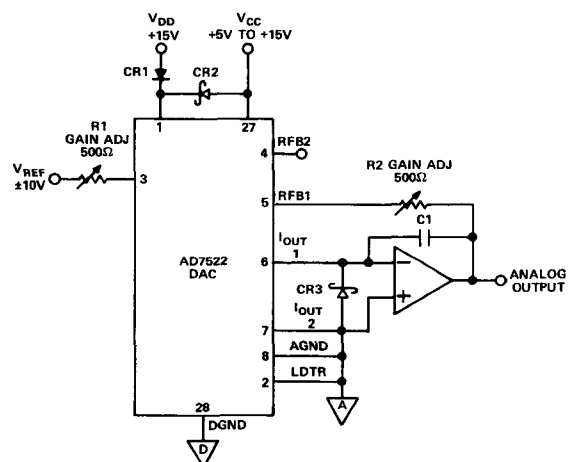
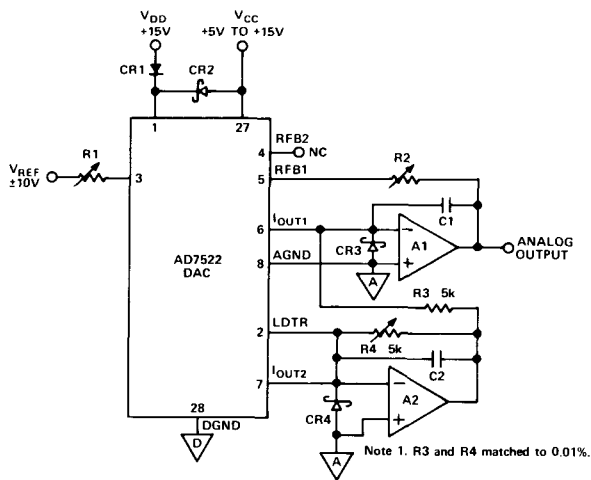

Figure 3. Unipolar Binary Operation (2-Quadrant Multiplication)
Figure 4. Bipolar Operation
Figure 3 shows the analog circuit connections required for unipolar operation. The input code/output voltage relationship is shown in Table 1.
Figure 4 shows the analog circuit connections required for bipolar operation. The input code/output voltage relationship is shown in Table 2.
1. CR1 and CR2 on Figures 3 and 4 protect the AD7522 against latch-up V_{CC} exceeds V_{DD} , and may be omitted if V_{DD} and V_{CC} are driven from the same voltage.
2. Diodes CR3 on Figure 3 and CR3 and CR4 on Figure 4 clamp the amplifier junction to -300mV if they attempt to swing negative during power up or power down. The input structures of some high-speed op amps can supply substantial current under the transient conditions encountered during power sequencing. It is recommended that the PC layout be able to accommodate the diodes.